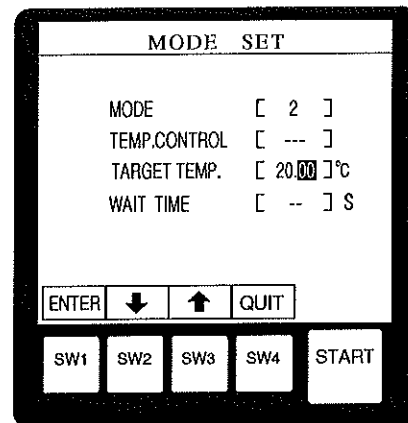

Fig. 10-7
- f) Then, the temperature fractional part of the TARGET TEMP. value should be blinking as shown in Fig.10-7. Use the SW2(↓) or SW3(↑) key to set the number to [00], then press the SW1(ENTER) key.